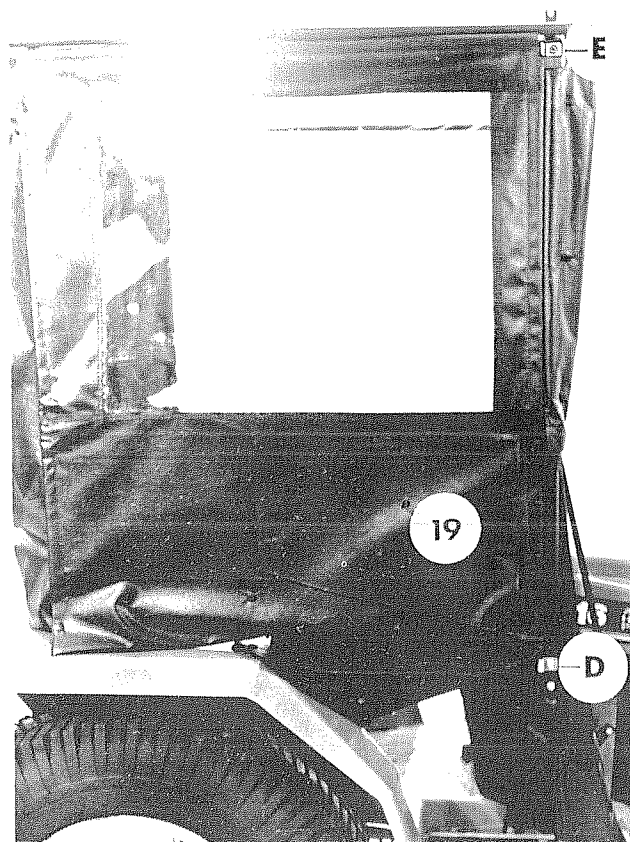

FIGURE 9
STEP 9; SEE FIGURE 9:
- A. Insert the rod at the bottom of the right DOOR (19) into the door hinge at REFERENCE D. Place a DOOR HINGE over the rod at the top of the door and secure it to the post with a bolt and nut at REFERENCE E.
- B. Repeat step 9A on the left side with left DOOR (21).